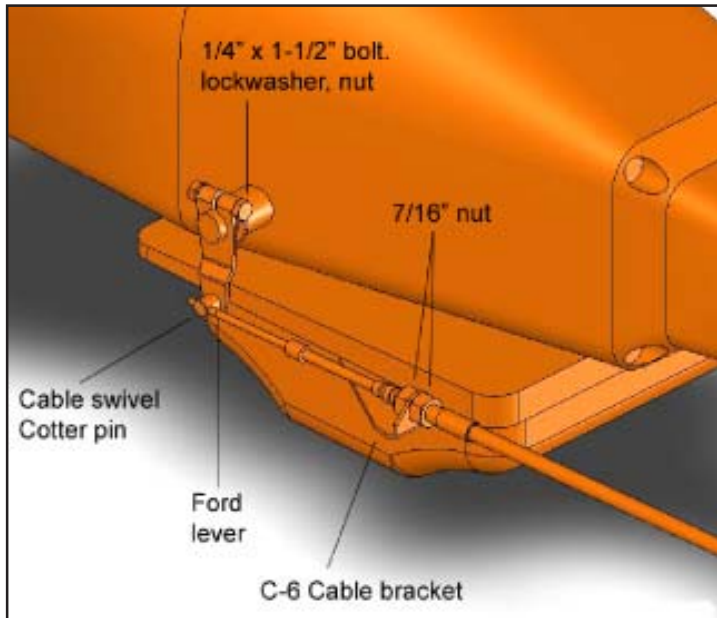

Figure 7
STEP 19. If you have not already done so, loosen the pinch bolt on the throttle lever on the transmission. This is the lever on the small diameter shaft. Pry the lever off with a screwdriver and allow the linkage to hang free. Remove and discard the stock shift lever and the stock shift linkage. Install the **B&M** selector lever in position and tighten the pinch bolt securely (See Figure 7). Make sure the lever is not pushed down so far as to touching the transmission case. This will cause the lever to bind on the case. The lever should travel smoothly from front to back with a positive click in each gear position. Install the stock throttle lever into position on the small diameter shaft as removed and tighten the pinch bolt securely. The throttle lever must operate smoothly.
STEP 20. Remove the two transmission oil pan bolts directly below the shift lever. Install the cable bracket into position with two spacers between the pan and the bracket (See Figure 7). (If your transmission is equipped with a cast aluminum oil pan these spacers can be omitted). Install the two supplied 5/16-18 x 1.00" pan bolts and tighten to 12-13 lb. ft. Do